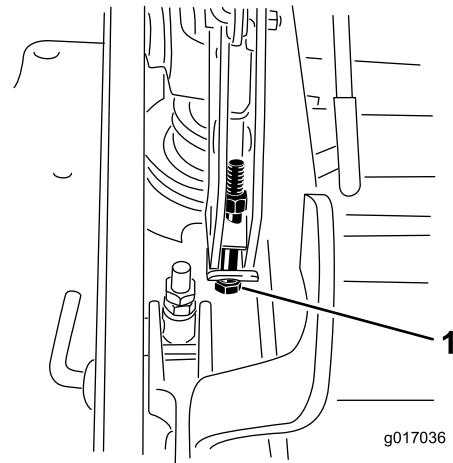

**Figure 91**
12. To adjust the single point system, loosen the 2 bolts at the bottom of the height-of-cut plate (Figure 91).
14. Tighten the 2 bolts at the bottom of the height-of-cut plate (Figure 91). T